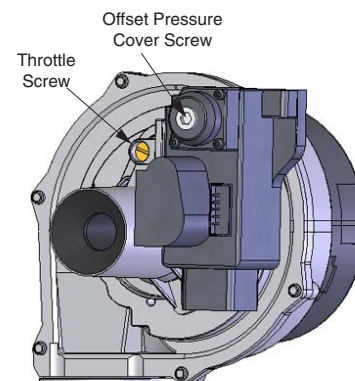

Fig. 5: Combustion Adjustment - Prestige Burner
If the combustion levels during high fire is outside the recommended combustion settings adjust the THROTTLE SCREW (see Fig. 5) as follows:
5. If the combustion level at low fire is not within +/- 0.2% of the combustion level measured at high fire, remove the offset cover screw and adjust the plastic **OFFSET SCREW** using a #25 Hex key (see Fig.5) as follows: